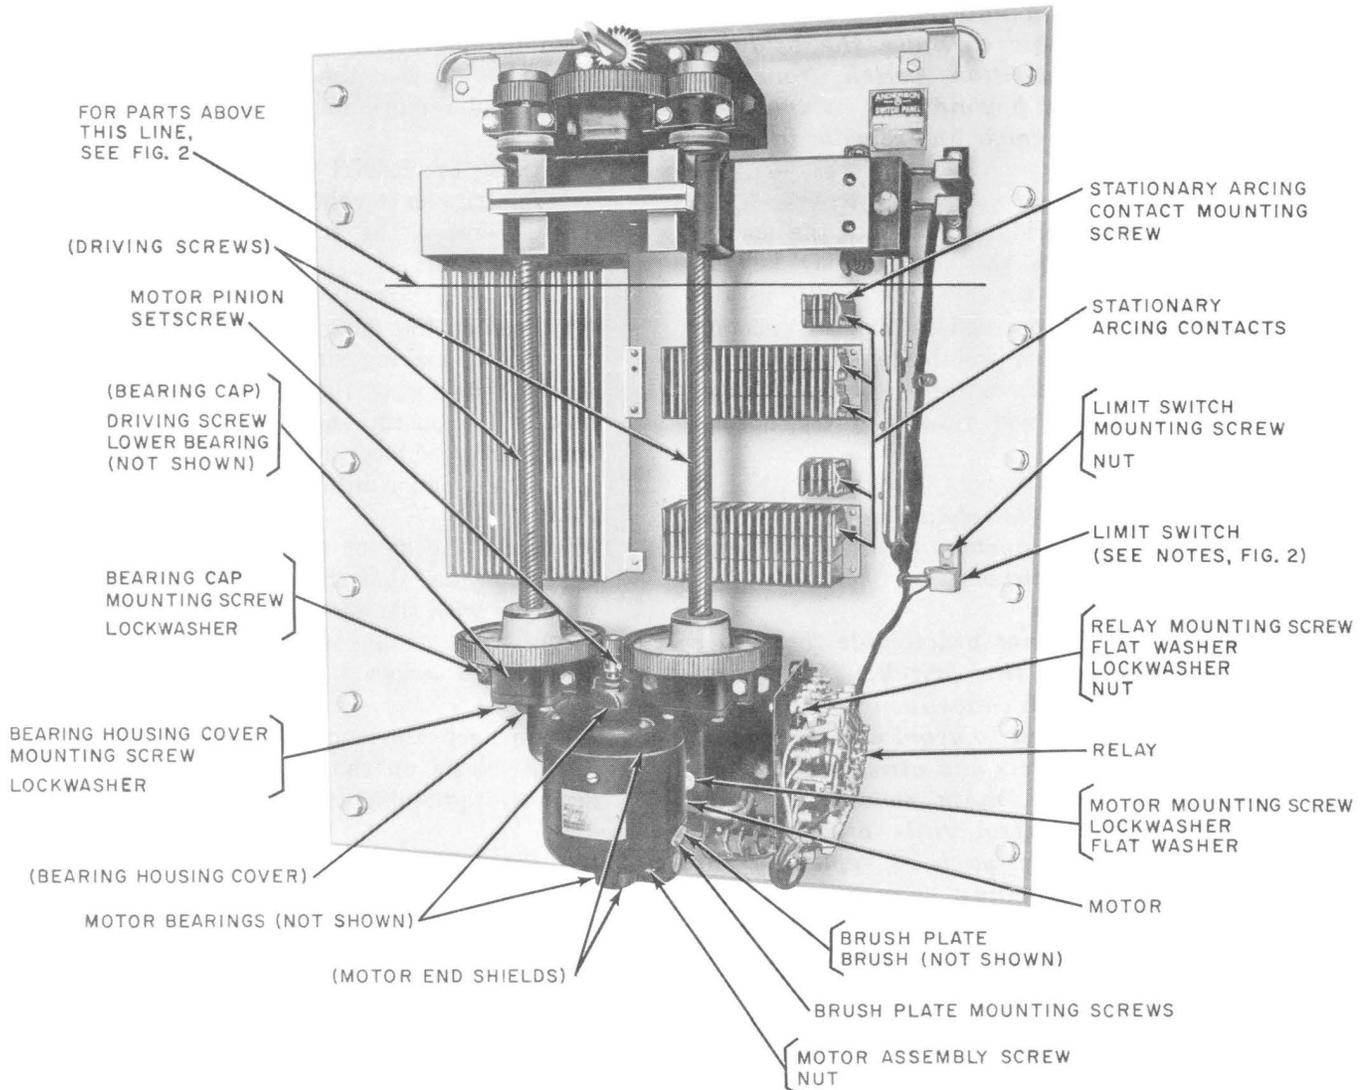

Fig. 1—KS-15610 and KS-15624 Type Switch Panel—Front View (KS-15624 L4 switch panel shown, cover removed)
3.07 Motor—Fig. 1
3.11 *Lower Bearing of Driving Screw—Fig. 1*
3.14 Limit Switches—Fig. 1: Initially the limit switches were mounted vertically on the switch panel. Subsequently a different type switch was introduced which is mounted horizontally. In replacing limit switches, the same type of switch must be used as that originally furnished on the switch panel, the type of switch required being determined by the serial number of the switch panel. A pair of limit switches, one of which functions as the off-normal switch, is provided at the top of the switch panel. Where vertically mounted switches are used, the two switches are mounted with the same screws and both switches must be removed, if one is to be replaced.
(2) Mount the new switch and associated parts in reverse order of removal. Adjust the switch or switches to meet the applicable requirements covered in Section 030-785-701.
3.15 Relay—Fig. 1
(2) ♦Mount new contact assembly in reverse order of removal (1) above.♦
3.17 Stationary Arcing Contacts (all switch panels except KS-15610 L1, L2, L11, and L12)—Fig. 1: Using the 4-inch E screwdriver, remove the contact mounting screws for the contact to be replaced and remove the contact. Mount the new contact and securely tighten the screws.